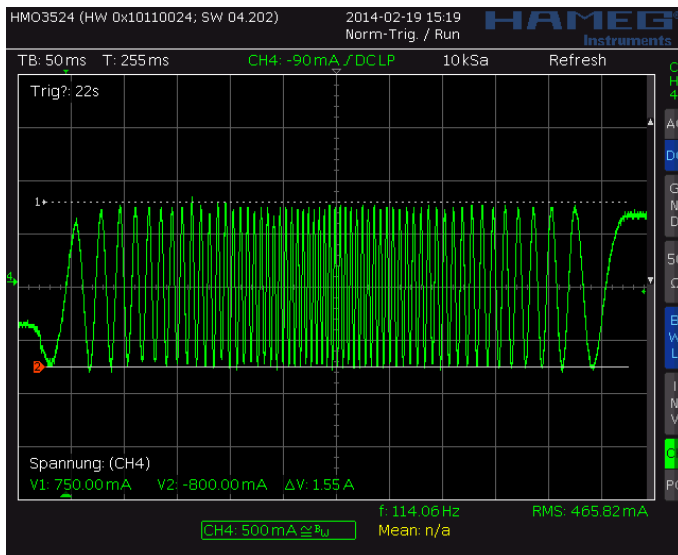
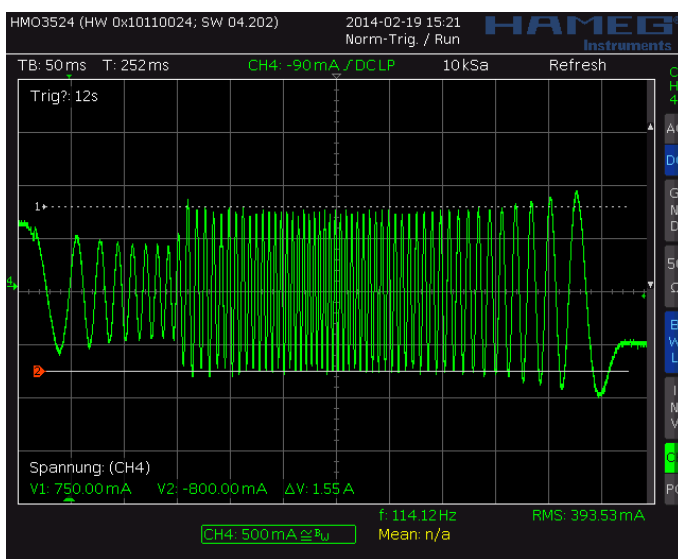
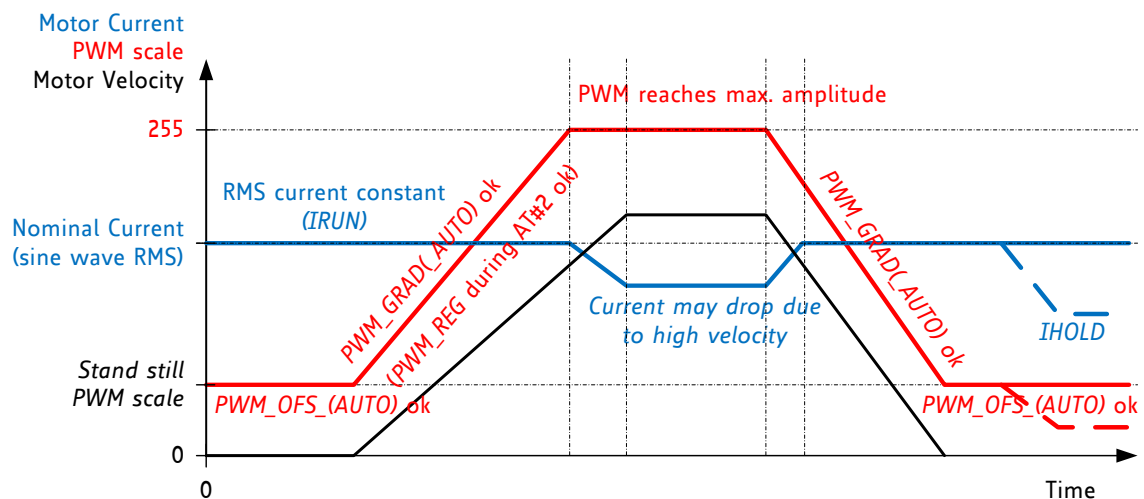

Figure 7.3 Scope shot: good setting for PWM\_REG
Figure 7.4 Scope shot: too small setting for PWM\_REG during AT#2
Figure 7.5 Successfully determined PWM\_GRAD(AUTO) and PWM\_OFS(AUTO)
In StealthChop voltage PWM mode, the autoscaling function ( $pwm\_autoscale = 1$ ,  $pwm\_auto\_grad = 1$ ) regulates the motor current to the desired current setting. Automatic scaling is used as part of the automatic tuning process (AT), and for subsequent tracking of changes within the motor parameters. The driver measures the motor current during the chopper on time and uses a proportional regulator to regulate  $PWM\_SCALE\_AUTO$  in order match the motor current to the target current.  $PWM\_REG$  is the proportionality coefficient for this regulator. Basically, the proportionality coefficient should be as small as possible to get a stable and soft regulation behavior, but it must be large enough to allow the driver to quickly react to changes caused by variation of parameters (e.g., change of mechanical load). During initial tuning step AT#2,  $PWM\_REG$  also compensates for the change of motor velocity. Therefore, a high acceleration during AT#2 will require a higher setting of  $PWM\_REG$ . With careful selection of homing velocity and acceleration, a minimum setting of the regulation gradient often is sufficient ( $PWM\_REG=1$ ).  $PWM\_REG$  setting should be optimized for the fastest required acceleration and deceleration ramp (compare Figure 7.3 and Figure 7.4). The quality of the setting  $PWM\_REG$  in phase AT#2 and the finished automatic tuning procedure (or non-automatic settings for  $PWM\_OFS$  and  $PWM\_GRAD$ ) can be examined when monitoring motor current during an acceleration phase Figure 7.5.